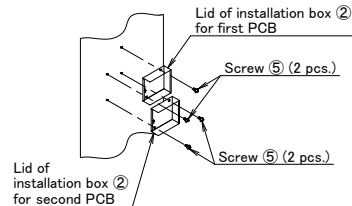

Figure 4
- (2) Attach the lid of installation box (2) on the vertical rigid surface near the unit with screws (5) (2 pcs.). (Refer to Figure 4)